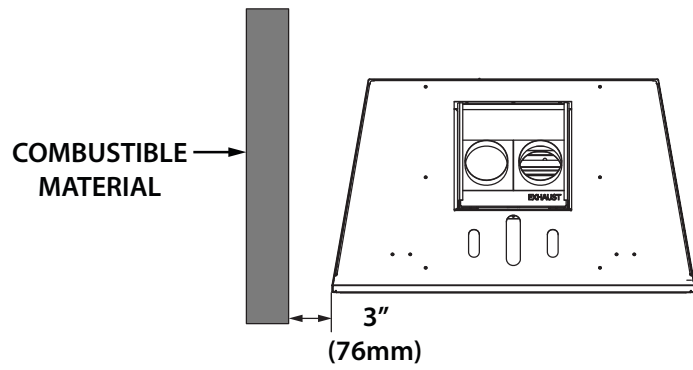

Figure 8.1, Clearance to Sidewall
- The adjacent sidewall minimum clearance is 3" (76mm) from the appliance sides (Fig 8.1).